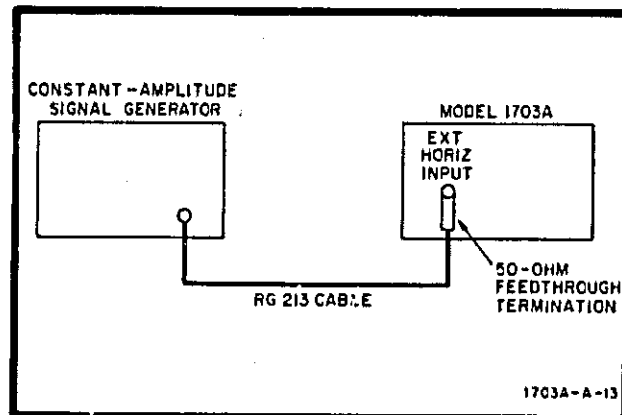

Figure 5-18. Ext Horizontal Bandwidth Test Setup
a. Set instruments up as shown in figure 5-18.